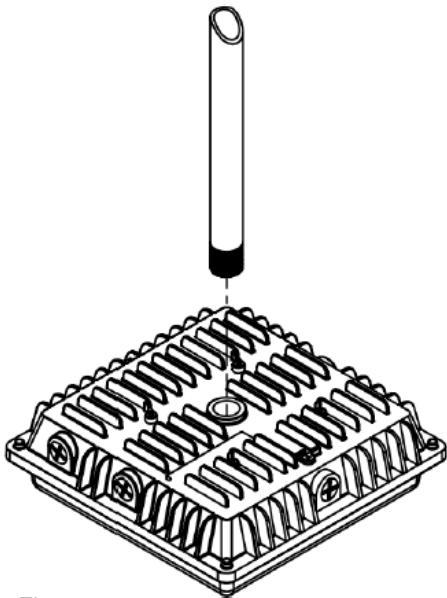

Figure 1
- For pendant mounting option:** Feed the electrical wire from the fixture through the conduit pipe (provided by others). (See Fig. 1) Connect wires in the electrical junction box per the wiring diagram (below).